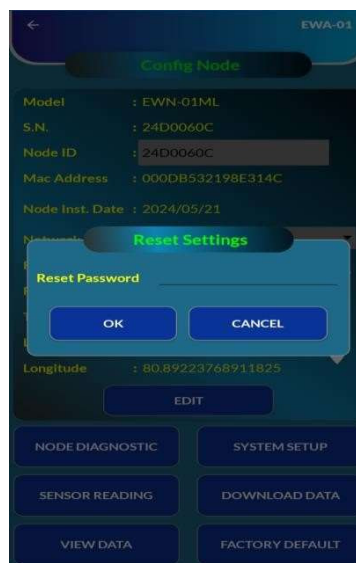

Figure 6-18 Reset settings to factory default
- To reset the node, click on the “FACTORY DEFAULT” tab from “Config Node” screen (figure 6-7 (a)). A prompt window asking for reset password will appear as shown in figure 6-18.